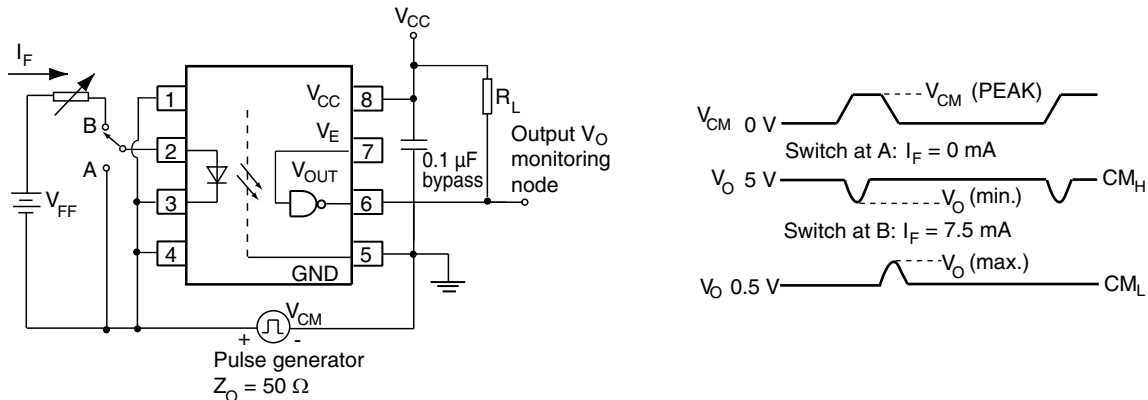

Fig. 4 - VOW137 Test Circuit for Common Mode Transient Immunity
- (1) Over recommended temperature ($T_{amb} = -40 \text{ }^\circ\text{C}$ to $+100 \text{ }^\circ\text{C}$), $V_{CC} = 5 \text{ V}$, $I_F = 7.5 \text{ mA}$ unless otherwise specified. All typicals at $T_{amb} = 25 \text{ }^\circ\text{C}$, $V_{CC} = 5 \text{ V}$.
- (2) Minimum and maximum values are testing requirements. Typical values are characteristics of the device and are the result of engineering evaluation. Typical values are for information only and are not part of the testing requirements.
- (3) With pulling V_E to logic high state will improve the CMR performance.
- (4) VOW137 CMTI test circuit refer to figure 4.